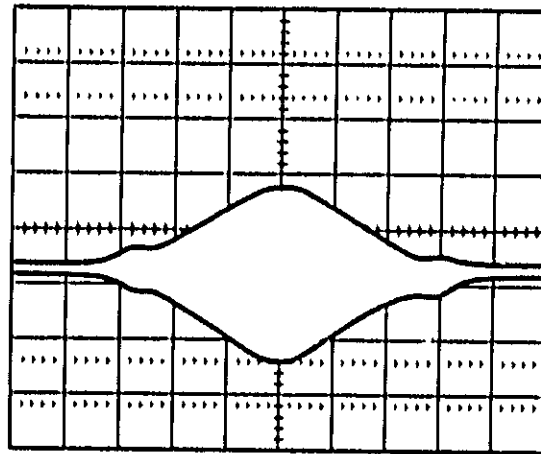

Figure 5-35. 50 MHz Birdie
5. Adjust oscilloscope Channel B vernier for a horizontal deflection of exactly 10 divisions. Set 8350A/B CF=1GHz, ΔF =10 MHz. Select 50 MHz Markers. Center the birdie envelope on the screen with plug-in front panel FREQ CAL control. (See Figure 5-35.) Then select 10 MHz Markers. Change ΔF to 1 MHz. Recenter birdie. Display is now calibrated for 100 kHz/Division.